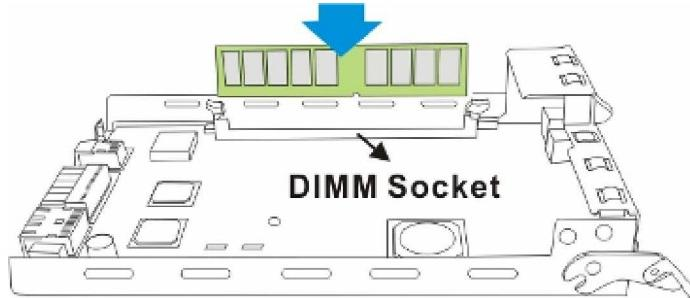

Figure 5-8: Installing the DIMM Module
Step 3. Re-insert the new DIMM module. Align the new DDR RAM DIMM module with the DIMM socket and gently (but firmly) push it in. The white clips on either side of the slot should automatically close and lock the new DIMM module into place. (See *Figure 5-8*)